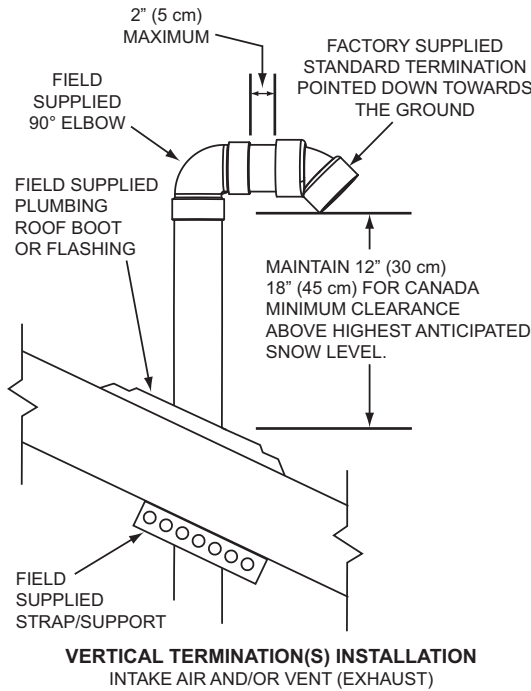
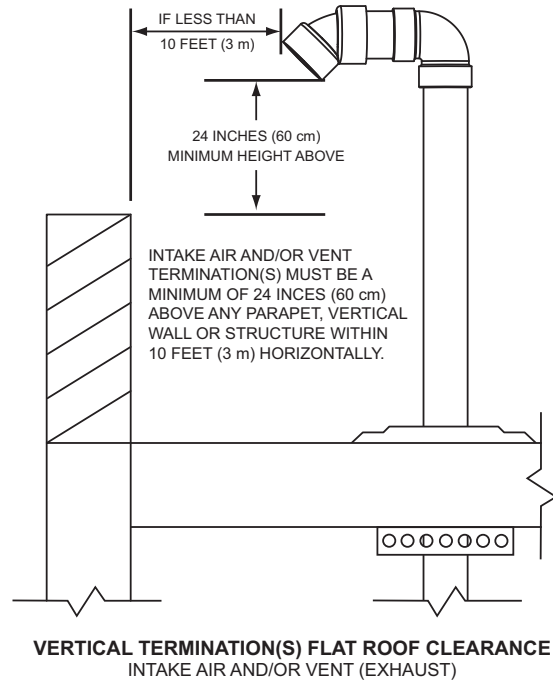
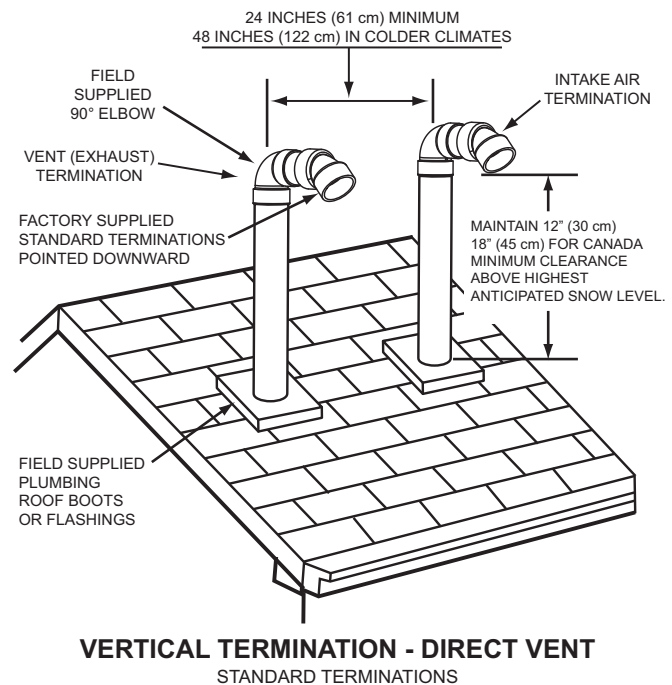

Figure 19
Figure 20
Figure 21
2. If installing only the vent (exhaust) piping in a Power Vent configuration vertically through the roof; ensure that all exterior vertical clearance requirements shown in Figure 19 and Figure 20 on page 24 are being maintained. These clearances and those cited by local and national codes must be maintained.
NOTE: On flat roof installations the vent termination must be a minimum of 24 inches (60 cm) above any parapet, vertical wall or structure within 10 feet (3 m) horizontally. See Figure 20 on page 24.
3. If installing both intake air and vent piping in a Direct Vent configuration vertically through the roof; ensure that all exterior vertical clearance requirements shown in Figure 20 and Figure 21 on page 24 are being maintained. These clearances and those cited by local and national codes must be maintained.
NOTE: On flat roof installations the intake air and the vent terminations must be a minimum of 24 inches (60 cm) above any parapet, vertical wall or structure within 10 feet (3 m) horizontally. See Figure 20 on page 24.
The vent termination must be oriented facing downward as shown in Figure 19 and Figure 20.
The bottom edge of the vent termination must be a minimum of 12 inches (30 cm), 18 inches (45 cm) in Canada, above the average or expected snow level as shown in Figure 19.
The intake air and vent pipes must penetrate the same side of the roof as shown in Figure 21.
The intake air and vent terminations must be oriented facing downward and in the same direction as shown in Figure 21.
The intake air and vent terminations must have a minimum separation of 24" (61 cm) measured on center line as shown in Figure 21. In colder climates this separation should be increased to at least 48 inches (122 cm).
The bottom edge of the intake air and vent terminations must be a minimum of 12 inches (30 cm), 18 inches (45 cm) in Canada, above the average or expected snow level as shown in Figure 19 and Figure 21.
The distance between the closest vent and intake air terminations must be a minimum of 24 inches (61 cm) as shown in Figure 21. In colder climates this separation should be increased to at least 48 inches (122 cm).
- Suspend the pipe(s) through center of hole using field supplied metal strapping or equivalent support materials as shown in Figure 19.
- Slide a roof boot or equivalent flashing over the pipe and secure roof boot or equivalent flashing to roof (see Figure 19) and seal around the flashing.
- Install the factory supplied intake air and/or vent termination(s) using field supplied pipe and one field supplied 90° elbow as shown in Figure 19. The short section of pipe that connects between the field supplied 90° elbow and the factory supplied termination must not be excessive in length. The exposed portion of this pipe shall be no more than 2 inches (5 cm), see Figure 19.